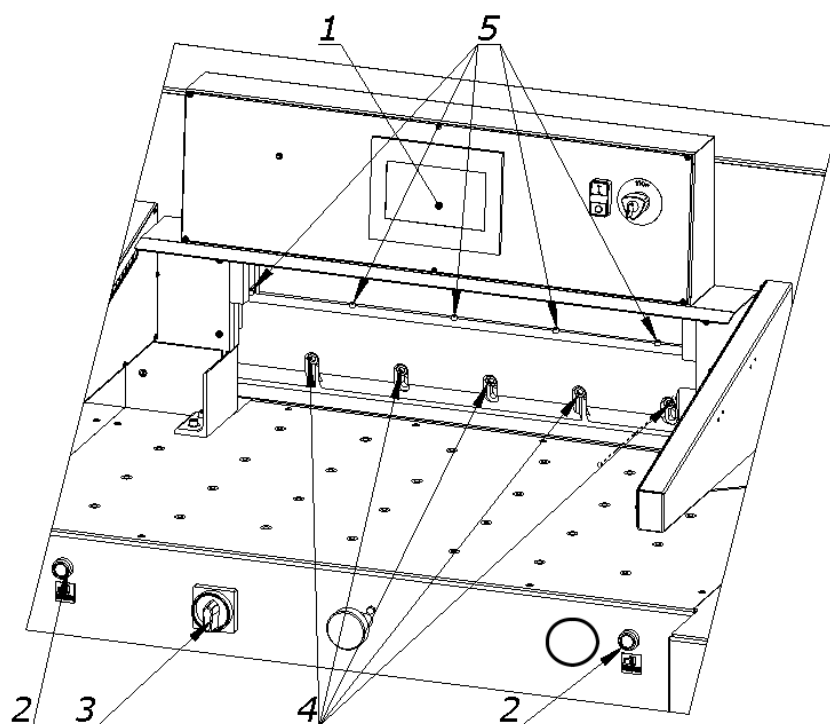

Figure 35
8.1.2.9 Pressing the push buttons 2  (Fig. 35) at the same time, start the cutting cycle. The knife will stop in the lower position.
8.1.2.12. Unscrew the fixing screws 4 (fig.35) so that the knife falls under its own weight on the base bar with its entire length.
8.1.2.13. Tighten the adjustment screws 5 (fig. 35) as far as they will go, so that the blade of the knife is cut into the base bar, approx. 0.3 mm.
8.1.2.14. Tighten the mounting screws 4 (figure 35)
8.1.2.15. Switch on the power supply of the electrical system by turning the main switch knob 3 (fig. 35) to position "I".
8.1.2.16. Turn off the "knife change" function on the programmer 1 (fig.35)
8.1.2.18. Turn off the power supply of the electrical system by turning the main switch knob 3 (fig. 35) to the "0" position
8.1.2.20. Turn on the power supply of the electrical system by turning the knob of the main switch 3 (fig.35) to position "I"